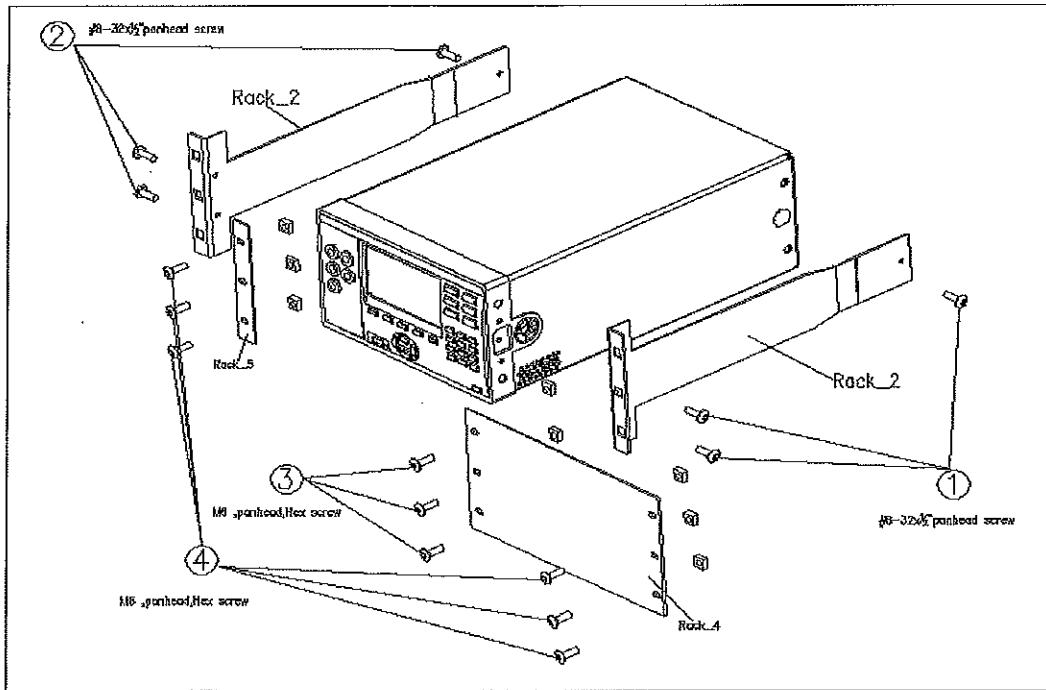

Figure 2
1. Using three #8-32 x 1/2" panhead screws, attach the Rack_2 on the right front side of the Meter, keeping the smooth face with three holes of the bracket facing the front as shown in Figure 2.
4. Install the assembled rack mount kit in the rack using the six M6 screws with the Rack_5 under the screws on the left-hand side of the rack as shown in Figure 2.